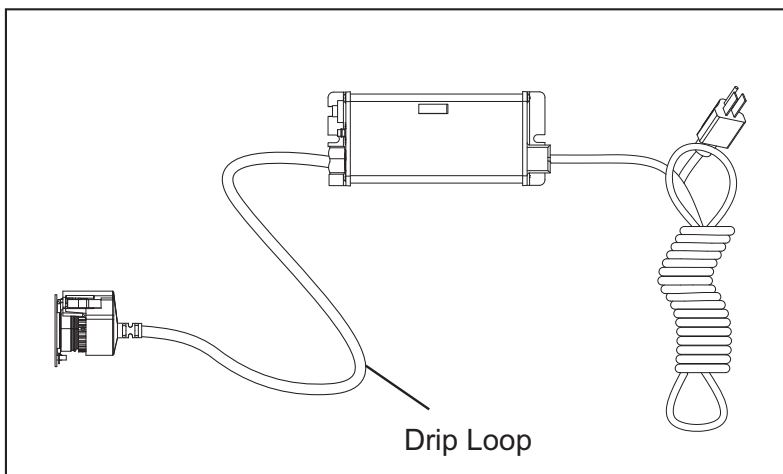

Figure 5 Drip Loop
- The controller should be mounted either above or beside the UV chamber. Always mount controller horizontally to prevent moisture from running down cordage and causing a potential fire hazard. Drip loops in all cordage connected to controller is highly recommended. Refer to Figure 5.
4. Mount the VIQUA ICE controller horizontally to the wall, near the UV chamber. Ideally place the controller above the chamber and away from any water connection point, to prevent any water from potentially leaking onto the controller by means of a leak at a connection point or a “sweating” system. Make sure you allow for a “drip-loop” as shown in Figure 5 on the UV lamp, UV sensor, and power cord, again, to prevent any water from potentially entering the controller.